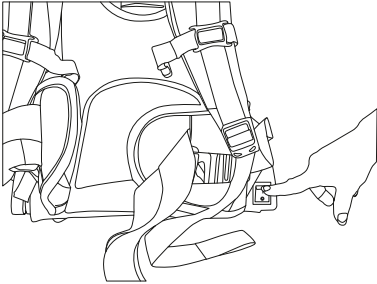

Fig. 10
- Turn off the main power switch (**Fig. 10**).
1. Turn off the main power switch (**Fig. 10**).